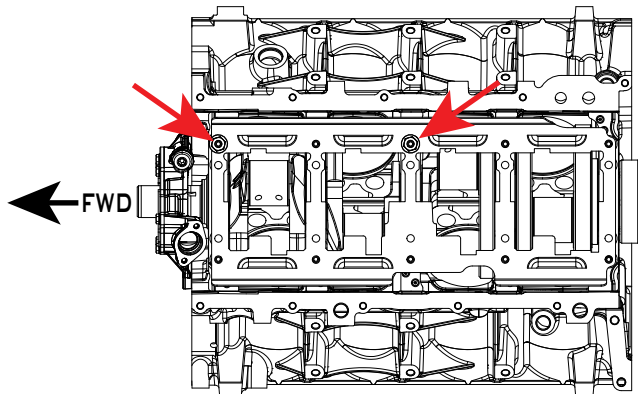

Figure 1 - Secure crank scraper with the two nuts indicated
6. Secure the Improved Racing crank scraper loosely to the main caps using two windage tray nuts in the locations highlighted in Figure 1.